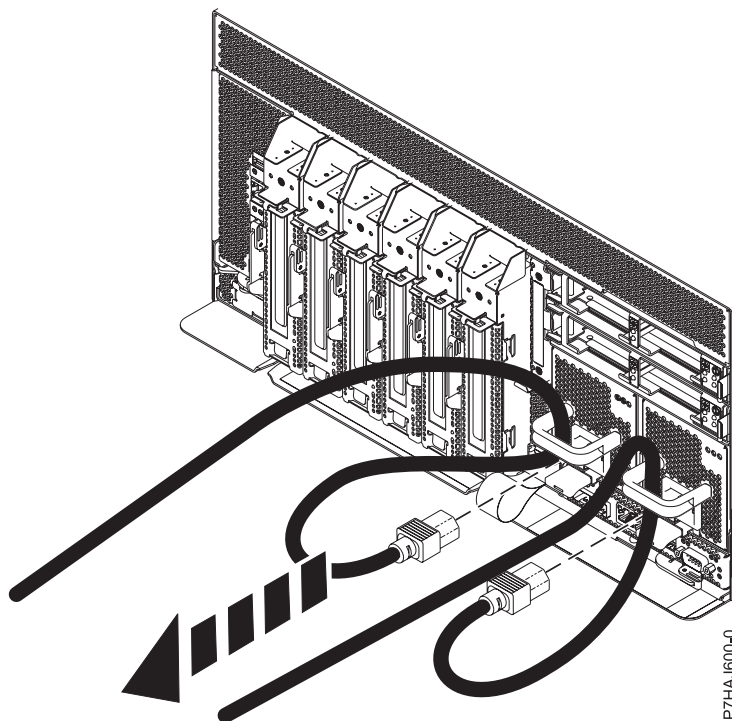

Figure 26. Removing the power cords
3. Disconnect the power cords from the system unit as shown in Figure 26.